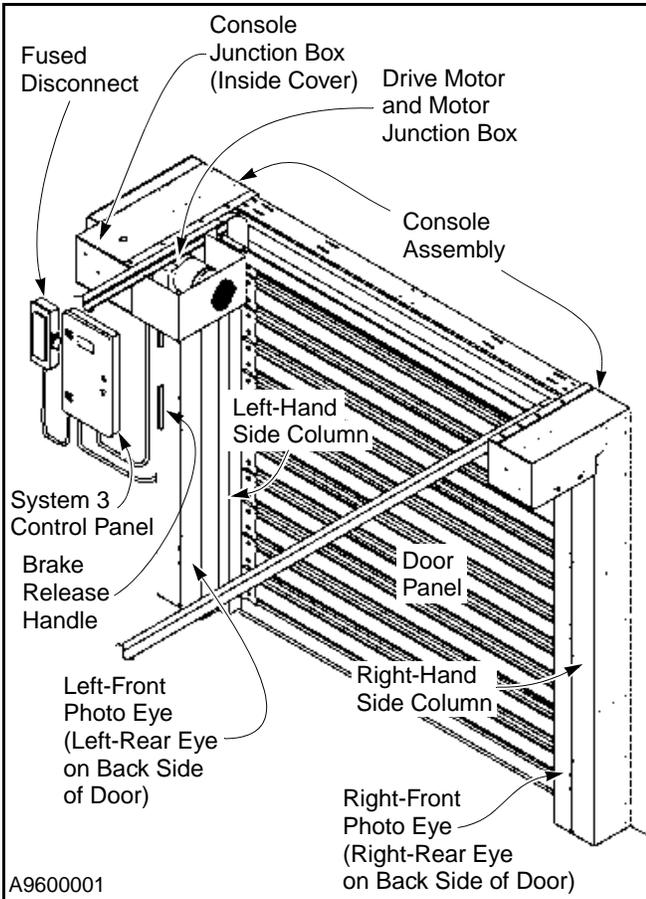

Figure 2
1. Install fused disconnect and Rytec control panel. (See Figure 2 for typical installation.)
Figure 2 shows the location of the major components of your Spiral LH door. This illustration should be used as reference only and should not be used as part of the installation instructions.